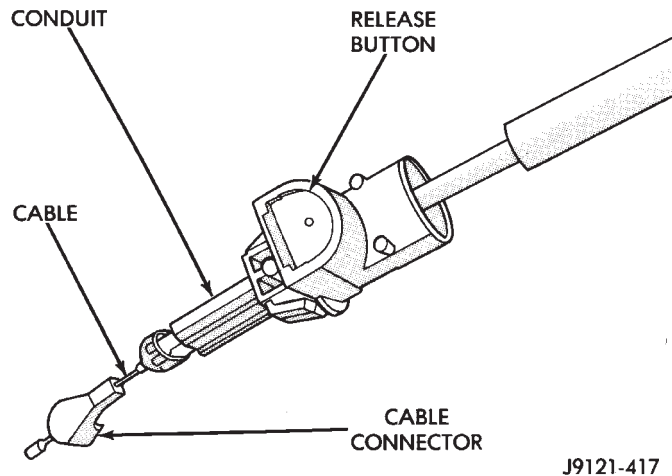

Fig. 44 Throttle Cable Components
(1) Shift transmission into Park, shut engine off and raise hood.
(2) Press cable release button (Fig. 44).